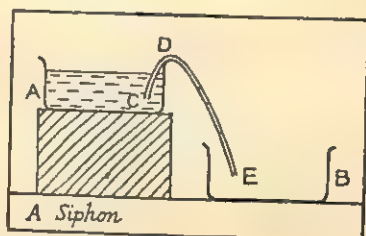

Fig: 9
19. Use atmospheric pressure to lift water from the bowl A (fig. 9) over the side of the bowl. Allow the water then to flow down into bowl B.